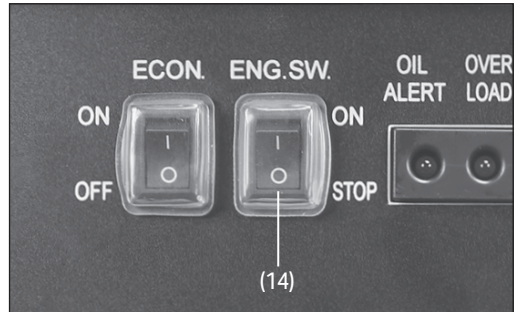
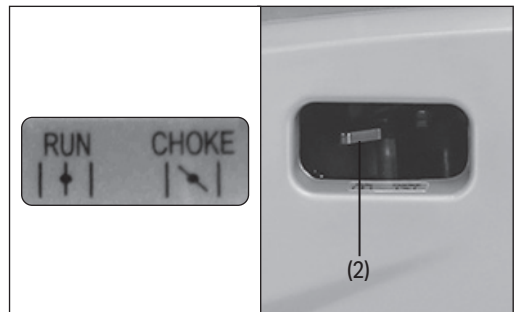

Fig. 9
Fig. 10
4. Move the engine power switch (14) to the 'ON/' position. (Fig.9).
5. Move the choke lever (2) to the appropriate position:
- Cold start: 'CHOKE' position (Fig.10).
- Warm start: 'RUN' position (Fig.10).
6. If necessary, prime the engine by pressing the priming bulb (11) around six times.
- b. Move the choke lever to the '**CHOKE**' position. (Fig.10).